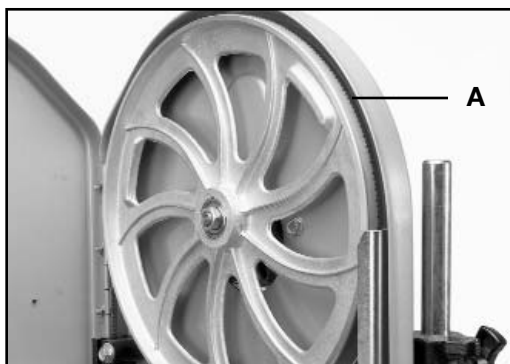
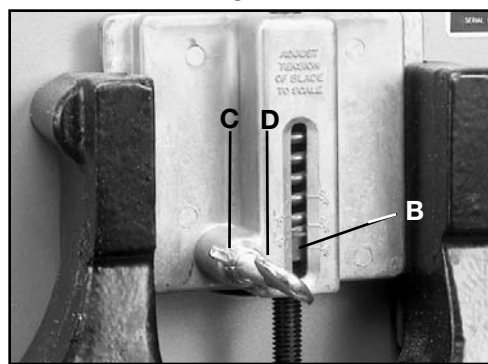

Fig. 22
Fig. 23
After applying tension to the blade, rotate the wheels slowly forward by hand and observe the blade's movement. The blade (A) Fig. 22 should travel in the center of the upper tire. If the blade creeps toward the front edge, loosen the wing nut (C) Fig. 23, and tighten the thumb screw (D). This will draw the blade toward the center of the tire. If the blade creeps toward the back edge, turn the thumb screw in the opposite direction. Adjust the thumb screw (D) Fig. 23 only a fraction of a turn each time. **NEVER TRACK THE BLADE WHILE THE TOOL IS RUNNING.** After the blade is tracking to the center of both tires, tighten the wing nut (C) Fig. 23. Adjust the Blade Guides and Bearings.